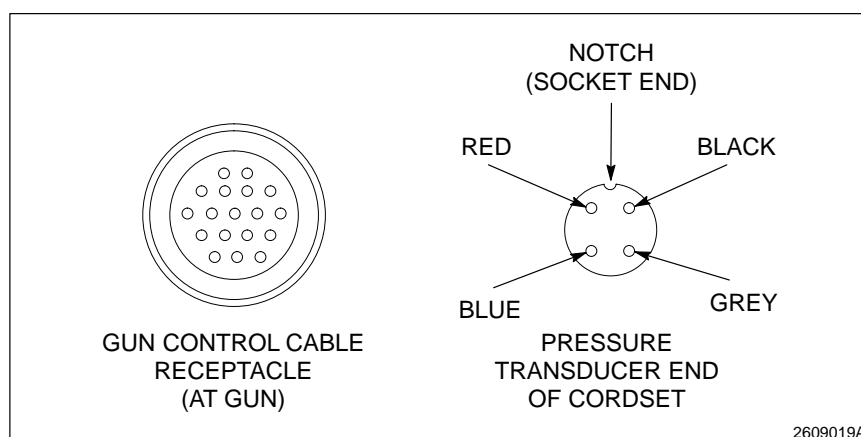

Fig. 6-10 Wiring Continuity
1. See Figure 6-10 and refer to Table 6-1. Remove the pressure transducer cover and unplug the cordset.